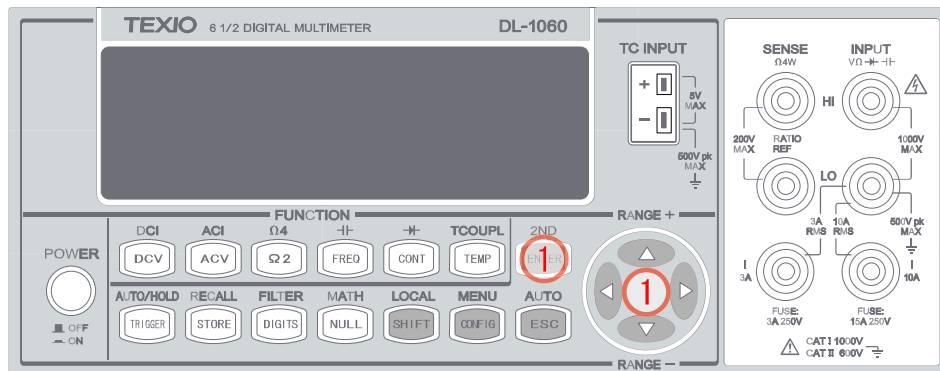

Figure 3-5
1. After enabling the filter (see above), use ◀ and ▶ buttons to locate “ READINGS” . Press ENTER to select it. Use ◀ and ▶ to move through the digits and ▲ and ▼ buttons to increase or decrease the number to a desired value (from 2 to 100). Press ENTER to set the value. Press ENTER in “RUN” to start reading as shown in **Figure 3-5**.